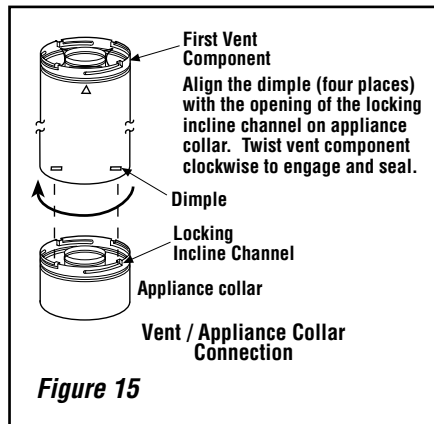

Figure 15
- Secure Vent SV8 direct vent system components are unitized concentric pipe components featuring positive twist lock connections (see **Figure 15**).
To attach a vent component to the appliance collar, align the dimpled end over the collar, adjusting the radial alignment until the four locking dimples are aligned with the inlet of the four inclined channels on the collar (refer to **Figure 15**). Push the vent component against the collar until it fully engages, then twist the component clockwise, running the dimples down and along the incline channels until they seat at the end of the channels. The unitized design of the **Secure Vent** components will engage and seal both the inner and outer pipe without the need for sealant or screws. If desired a #6 x 1/2" screw may be used at the joint, but it is not required as the pipe will securely lock when twisted.
D. Attach vent components to appliance - To attach a vent component to the appliance collar, align the dimpled end over the collar, adjusting the radial alignment until the four locking dimples are aligned with the inlets of the four incline channels on the collar (refer to **Figure 15 on Page 12**).